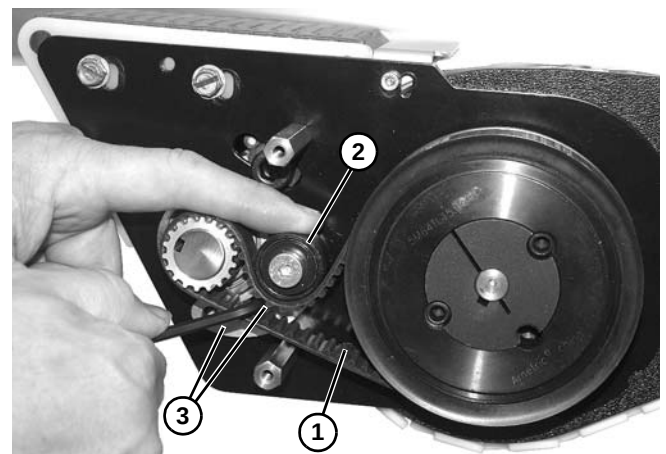

Figure 125
- On idler end, route and install belt (Figure 125, item 1) as shown. Press up on tensioner (Figure 125, item 2) and tighten two hex head screws (Figure 125, item 3).